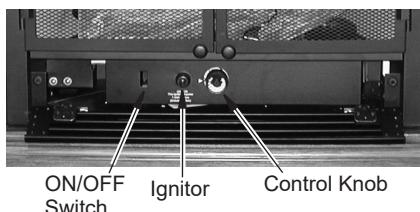

Figure 21 - Heater Control Locations
- 4. Turn control knob clockwise ↘ to the OFF position (see Figure 21).
- 5. Wait five (5) minutes to clear out any gas. Then smell for gas around heater and near the floor. If you smell gas, STOP! Follow "B" in the safety information above. If you do not smell gas, go to the next step.
- 6. Turn control knob counterclockwise ↙ to the PILOT position. Press in control knob for five (5) seconds.
*Note: The first time that the heater is operated after connecting the gas supply, the control knob should be pressed for about thirty (30) seconds. This will allow air to bleed from the gas system. If pilot does not stay lit, refer to Troubleshooting, pages 24 through 27. Also contact a qualified service technician or gas supplier for repairs. Until repairs are made, light pilot with match.*